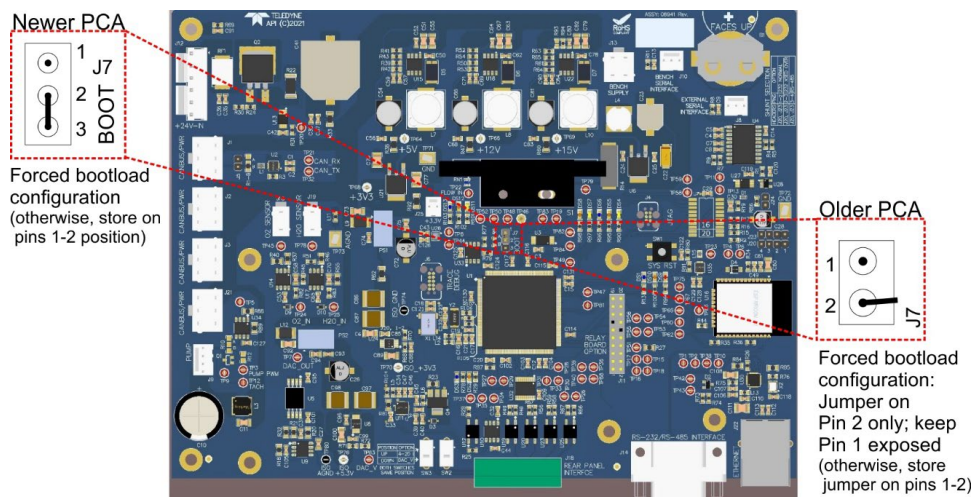

Figure 7-9. J7 Bootload Configuration
The boot loading set up includes instructions for jumper (shunt) configuration on the J7 connector, which is comprised of either two pins or three pins, depending on the PCA. Please refer to Figure 7-9 when following the jumper configuration instructions in these boot loading procedures.
2. Move the boot jumper into the boot position on the mainboard.. See Figure 7-9 for detail on jumper location and placement.
- Replace the boot jumper back to the default position (Figure 7-9).